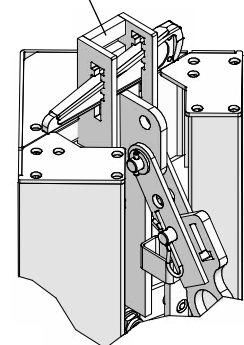

Fig. 35.6 Pouring position
1. Insert the wedge integrated into the stripping corner into the connecting device (Position C, Fig. 35.6).
8. Reinsert the wedge into the connecting device (Fig. 35.6).